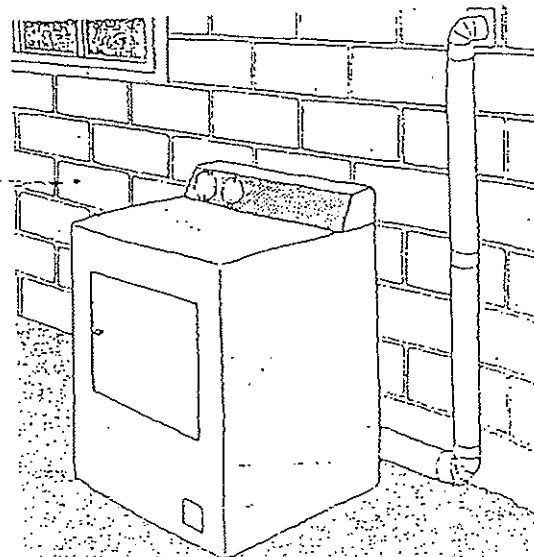

Figure 10 Clothes dryer vent.
- 4 Make certain the clothes dryer is vented to the exterior and not into your home, the basement or crawl space. Avoid hanging wet clothes inside the house; they contribute a substantial amount of moisture to the air (Figure 10).